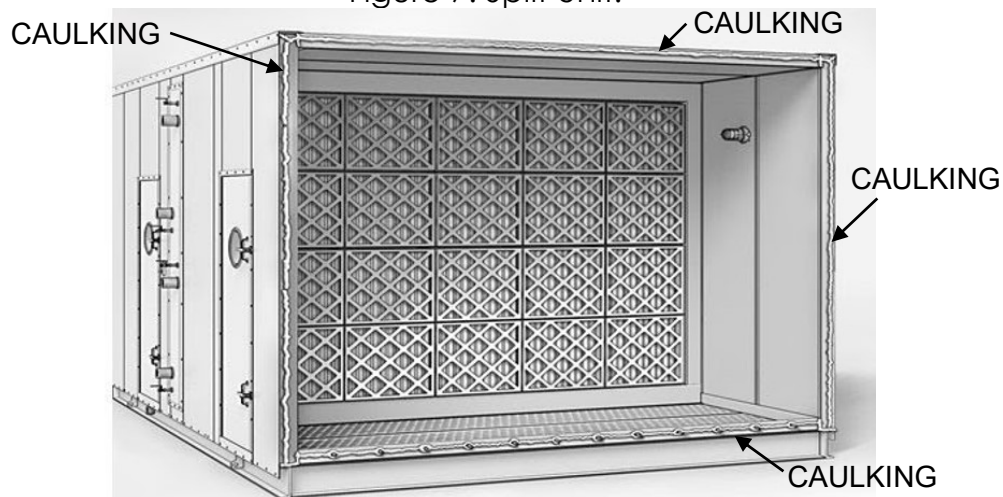

Figure 8: Caulking of Split Unit Joining Surface
2) Apply caulking around the facing edges of the casing at the joint (ref. Figure 8) and below the base joining flange holes on both sections.